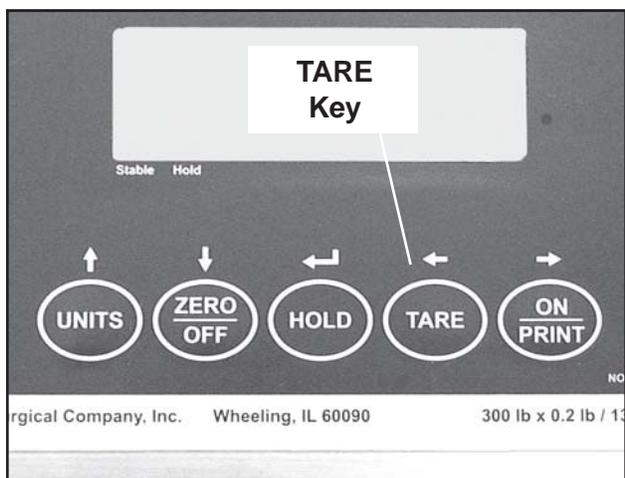

Figure 23. TARE Key on Control Panel
2. Press the **TARE** key (Figure 23). The letter **T** will appear in the display.